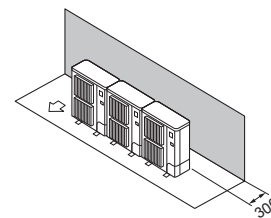

Fig. 2-9
- ① Kun forhindringer bagved (Fig. 2-9)